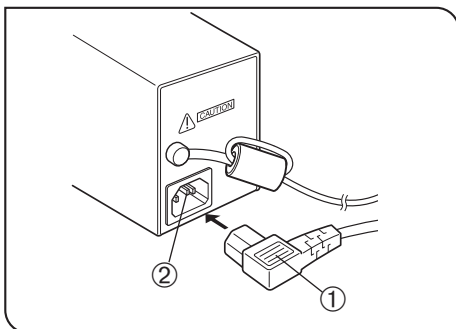

Fig. 42
### Operation Using the TL4 Power Supply Unit (Fig. 42)
1. Insert the connector ① of the power cord firmly into the input connector ② of the TL4 (Fig. 42).